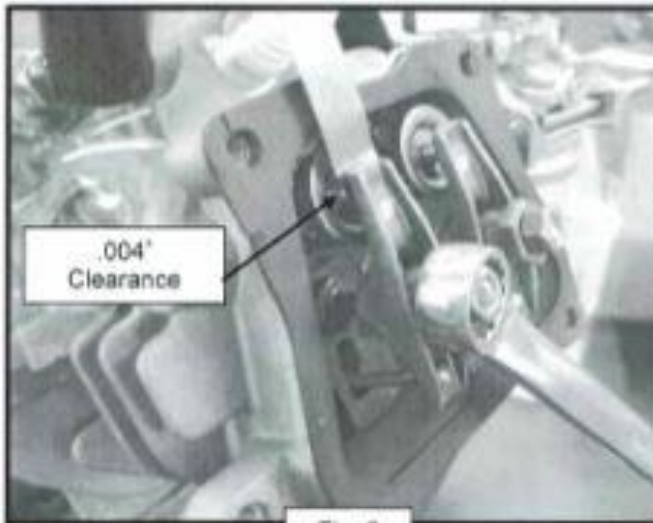

Fig. 6
- Rotate the engine to TDC of the compression stroke and set valve clearance on both the intake and exhaust valves to .004" (.10mm) using an appropriate feeler gauge (Fig. 6). Torque to 88 in. lbs. (9.9 N·m).